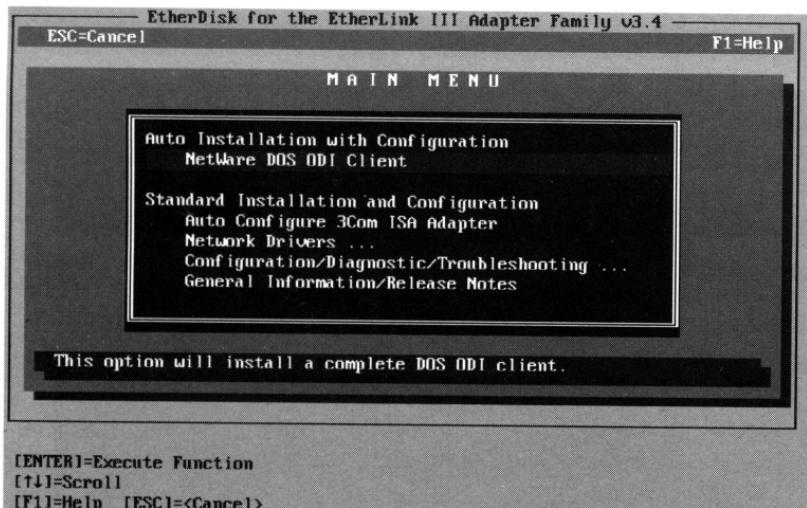

Figure 4-2. Main Menu
- 7. When the main menu screen shown in Figure 4-2 appears, select Configuration/Diagnostic/Troubleshooting and press [Enter].**
7. When the main menu screen shown in Figure 4-2 appears, select Configuration/Diagnostic/Troubleshooting and press [Enter].